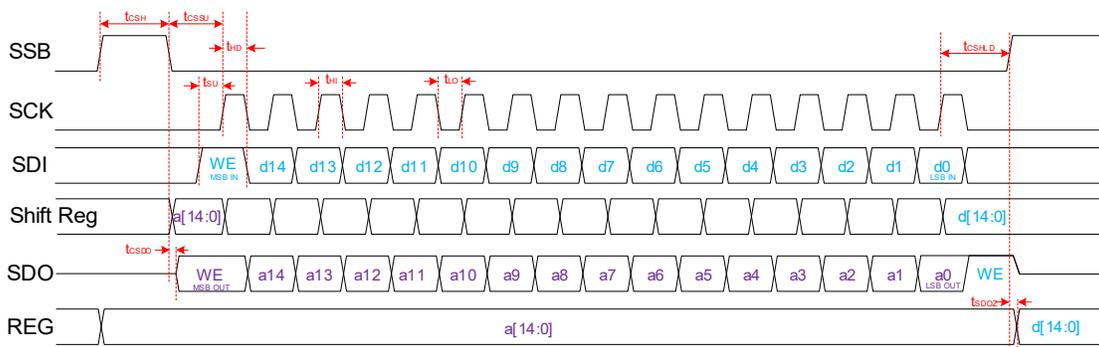
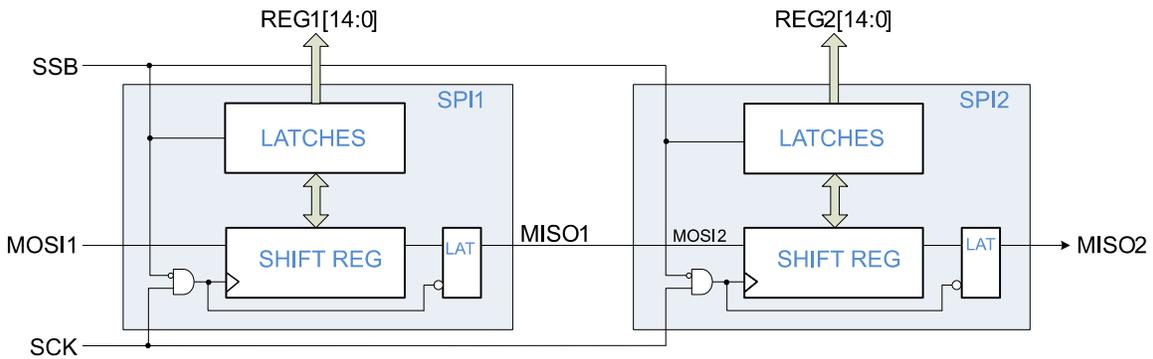
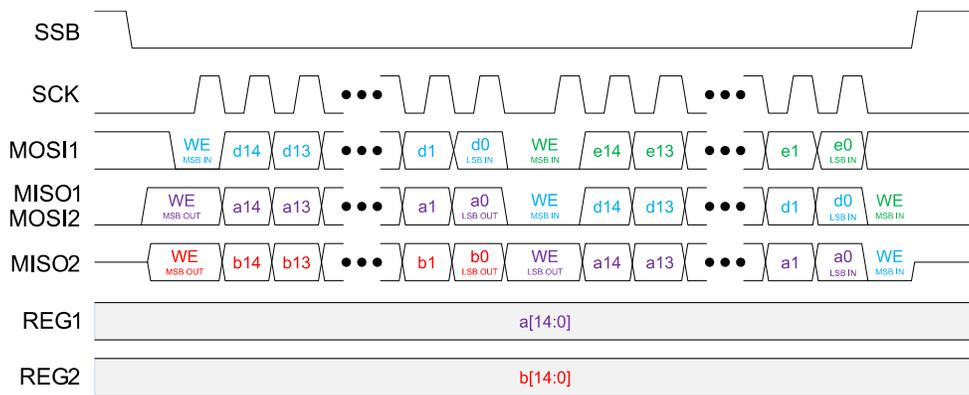
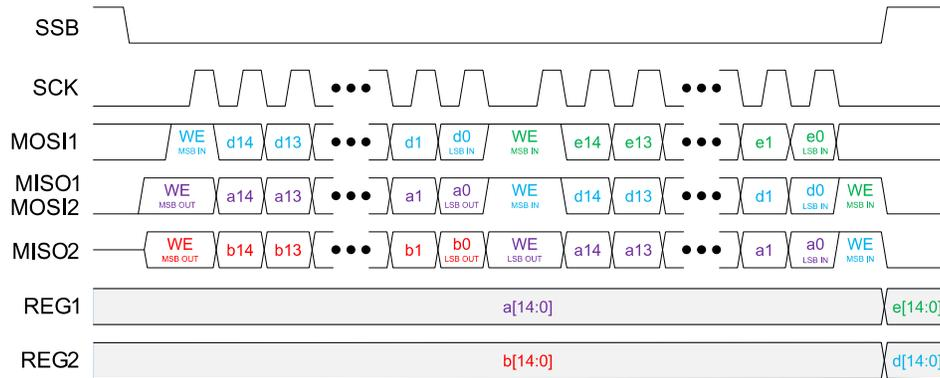

Figure 9. SPI Timing Diagram
Figure 12. SPI with 2 ICs Daisy-Chained
Figure 13. SPI Read Only (2 ICs Daisy-chained)
Figure 14. SPI Read & Write (2 ICs Daisy-Chained)
MODE = 0, activates the 16-Bit Serial Peripheral Interface (SPI) module for operation. Multiple devices can be daisy-chained to drive multiple ICs using one SPI bus (see Daisy Chain Operation, Figure 12., Figure 13, and Figure 14). The SPI works at any frequency up to a maximum of 33 MHz and may operate at significantly lower frequencies if the logic signals adhere to the data setup and hold requirements.
SPI timing diagrams are provided in Figure 9 through Figure 14. In SPI mode, data transmission starts when SSB goes Low, causing the Target to output the Most Significant Bit (MSB) of data to the SDO (MISO) pin. Data transfer from Host to Target takes place during the rising edge of the clock (SCK), which is idle when SSB is High. This mode of operation requires data for Host and Target to be present on SDI (MOSI) before the rising edge of the clock (defining SDI to SCK setup time). Data is pushed out of the SDO (MISO) pin during the falling edge of the clock. After the first 16-bit transaction, Host writes the latest data (DN) to Target, while Target passes its previous (DN-1) stored data to the Host. Data is latched into the internal registers at the rising edge of SSB, if WR_EN = 1.
Daisy chaining the ICs is permitted and involves connecting the MISO of one chip to the MOSI of the next chip in the chain, as shown in Figure 12. SPI timing diagrams with daisy-chained devices are provided in Figure 13 and Figure 14.